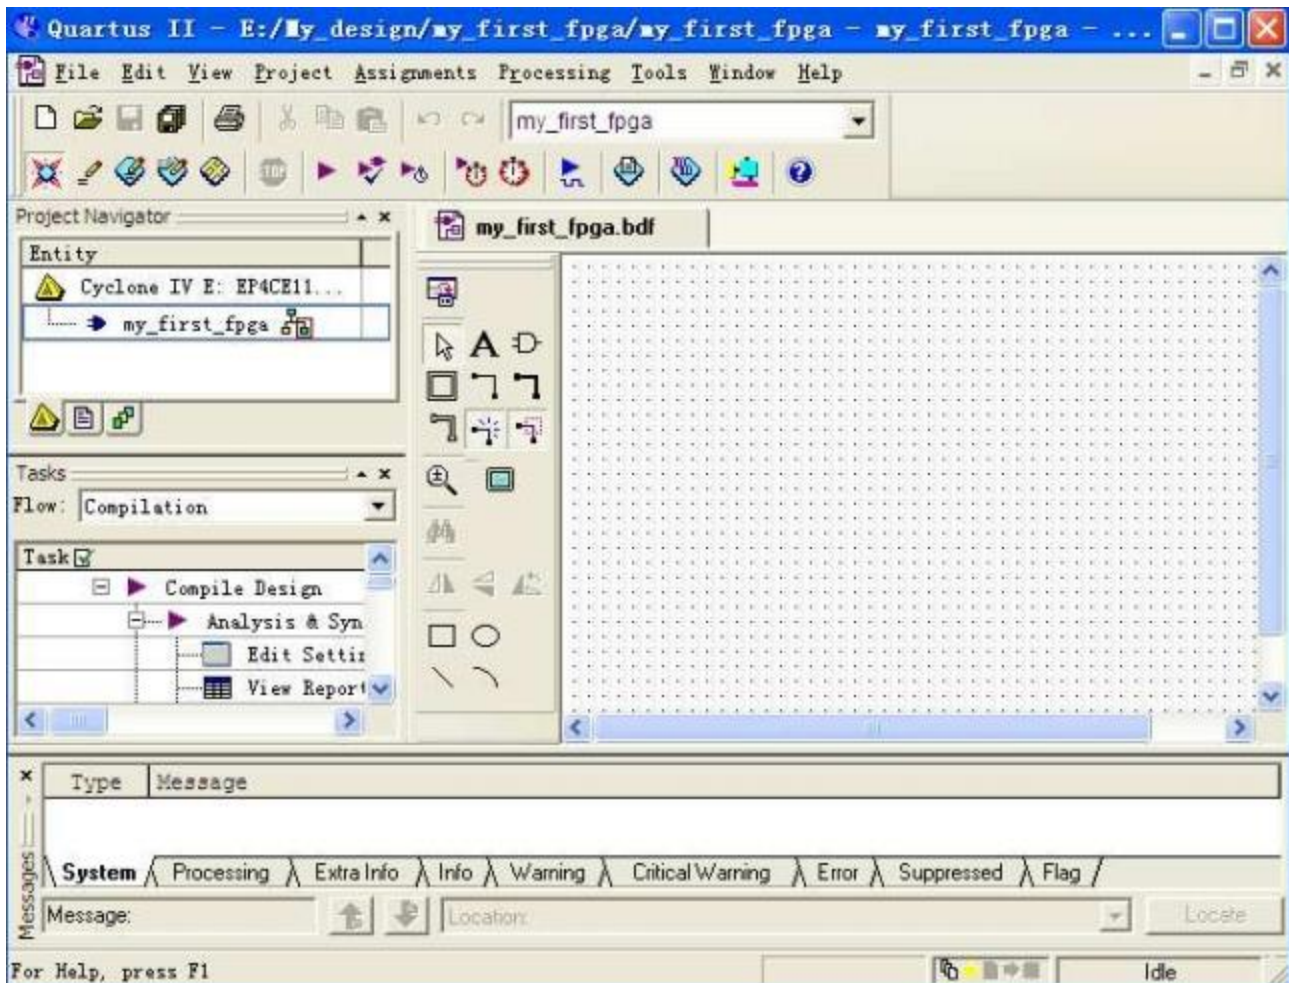

Figure 3-2 Bank BDF
4. Click Save. The new design file appears in the Block Editor (see **Figure 3-2**).